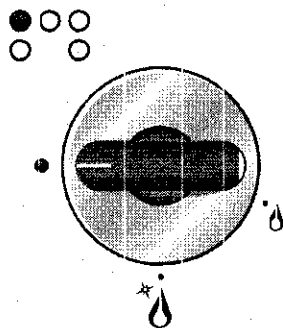

Fig. 2.1
The gas flow to the burners is achieved by turning the knob (illustrated in fig. 2.1) which controls the safety tap. By turning the knob so that the indicator line points at the symbols printed on the panel we obtain the following settings:
- ✓ To light one of the gas burners, push in and turn the relative knob fig. 2.1 to the maximum aperture position (large flame symbol ) and hold the knob in until the flame has been lit.